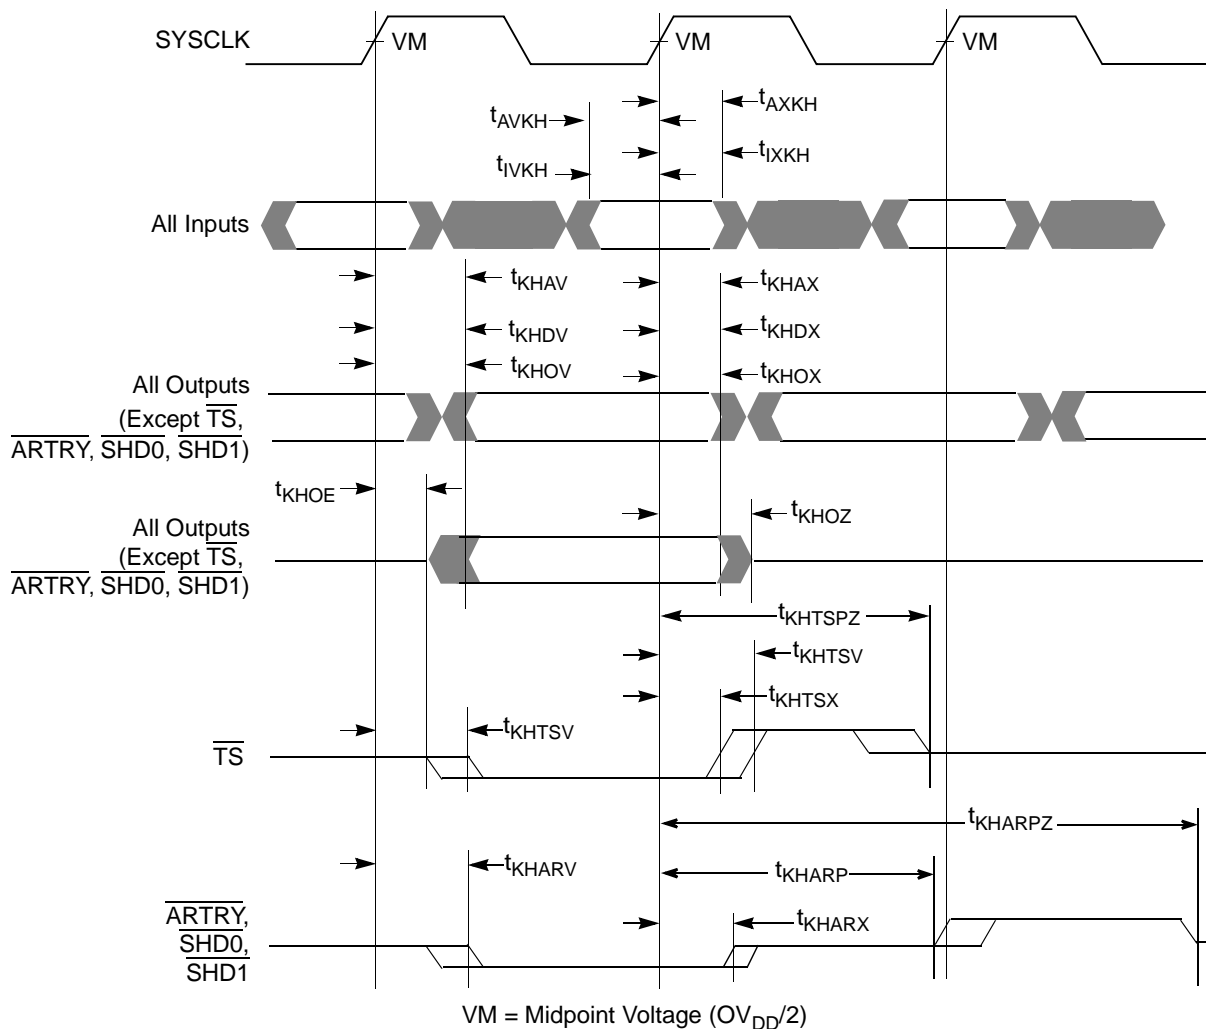

Figure 6. Input/Output Timing Diagram
- According to the bus protocol, $\overline{\text{TS}}$ is driven only by the currently active bus master. It is asserted low then precharged high before returning to high impedance as shown in Figure 6. The nominal precharge width for $\overline{\text{TS}}$ is $0.5 \times t_{\text{SYSCLK}}$, i.e., less than the minimum t_{SYSCLK} period, to ensure that another master asserting $\overline{\text{TS}}$ on the following clock will not contend with the precharge. Output valid and output hold timing is tested for the signal asserted. Output valid time is tested for precharge. The high impedance behavior is guaranteed by design.
- According to the bus protocol, $\overline{\text{ARTRY}}$ can be driven by multiple bus masters through the clock period immediately following $\overline{\text{AACK}}$. Bus contention is not an issue because any master asserting $\overline{\text{ARTRY}}$ will be driving it low. Any master asserting it low in the first clock following $\overline{\text{AACK}}$ will then go to high impedance for one clock before precharging it high during the second cycle after the assertion of $\overline{\text{AACK}}$. The nominal precharge width for $\overline{\text{ARTRY}}$ is $1.0 t_{\text{sysclk}}$; that is, it should be high impedance as shown in Figure 6 before the first opportunity for another master to assert $\overline{\text{ARTRY}}$. Output valid and output hold timing is tested for the signal asserted. The high-impedance behavior is guaranteed by design.
Figure 6 provides the input/output timing diagram for the MPC7451.